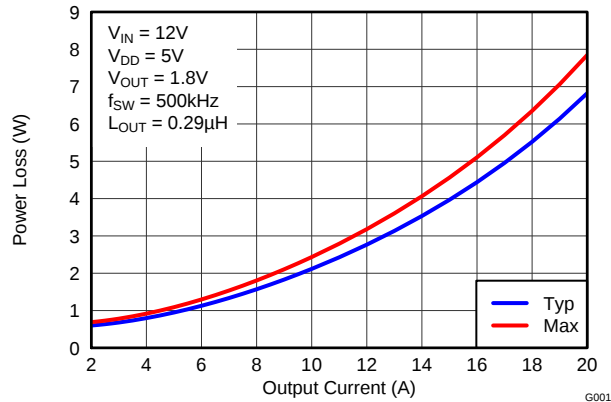

Figure 3. Power Loss vs Output Current
MOSFET centric parameters such as  $R_{DS(ON)}$  and  $Q_{gd}$  are primarily needed by engineers to estimate the loss generated by the devices. In an effort to simplify the design process for engineers, Texas Instruments has provided measured power loss performance curves. Figure 3 plots the power loss of the CSD97376Q4M as a function of load current. This curve is measured by configuring and running the CSD97376Q4M as it would be in the final application (see Figure 18). The measured power loss is the CSD97376Q4M device power loss which consists of both input conversion loss and gate drive loss. Equation 1 is used to generate the power loss curve.
The power loss curve in Figure 3 is measured at the maximum recommended junction temperature of  $T_J = 125^\circ\text{C}$  under isothermal test conditions.
- Typical Power Loss at 10A = 2.1W (Figure 3)